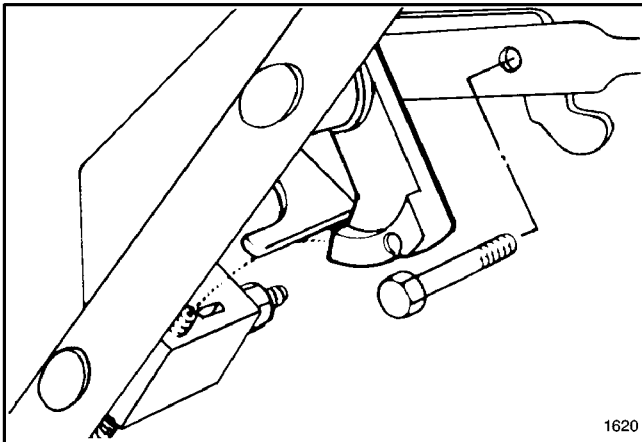

**Figure 3**
6. Use cable tie to secure cable(s) to lower side of left hand tube (Fig. 3). Cable tie should be positioned 25 mm (1") from bend in handle. See Figure 3 for correct cable placement.